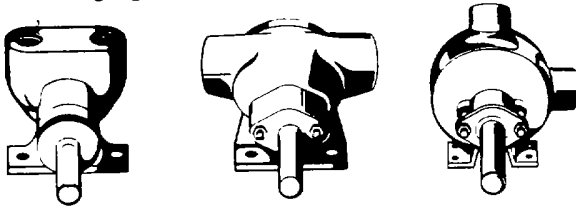
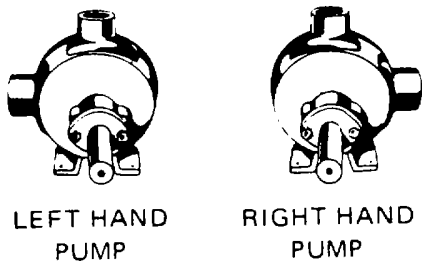

FIGURE 1
FIGURE 2
3. **Port Arrangement** — since the pumps have different port arrangements depending on the model, port location should be checked before starting the installation. The ports may be upright, opposite or at right angles to each other, see Figure 1. The right angle ports are normally right-hand, see Figure 2; some models are available with left-hand arrangements; still other models are available with the right angle ports located in any one of eight positions including right-hand and left-hand.